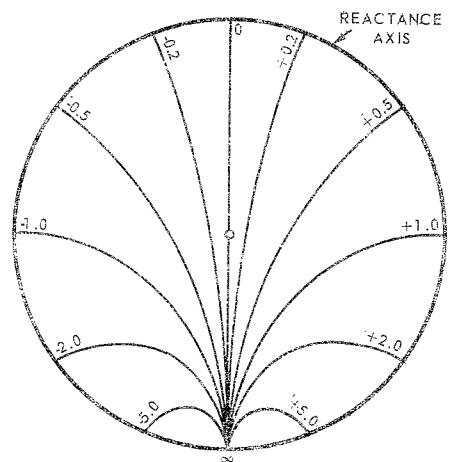

FIG. 3. REACTANCE CURVES.
2.3 The Reactance Circles (Fig. 3) appear as curved lines on the Chart because only segments of the complete circles are drawn. These circles are tangent to the resistance axis, which itself is a member of the reactance family (with a radius of infinity). The centres are displaced to the right or left on a line tangent to the bottom of the chart. The large outer circle bounding the co-ordinate portion of the Chart is the reactance axis.